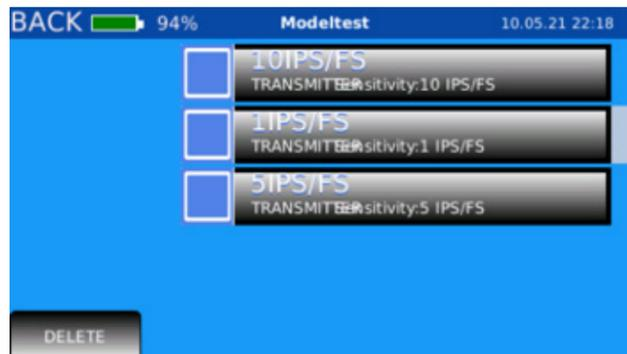

Figure 37. Select model
- Select the transmitter model and sensitivity (*Figure 37*).